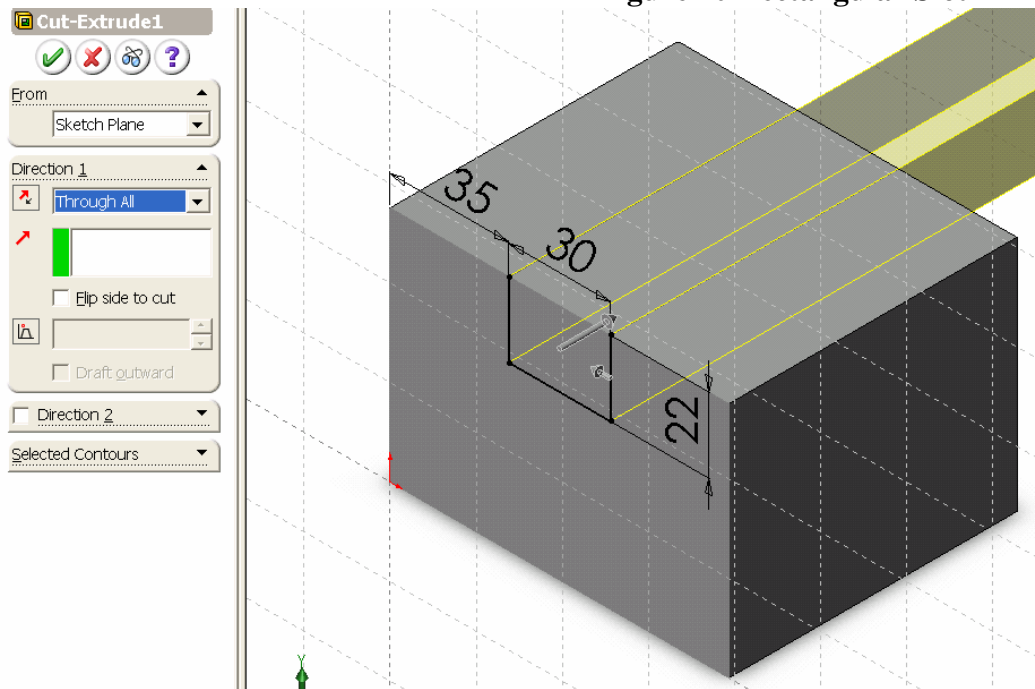

Figure 11 Rectangular Slot Cut
- 9) Select **Through All** from the end condition drop down list box in the Cut-Extrude PropertyManager as shown in Figure 11.